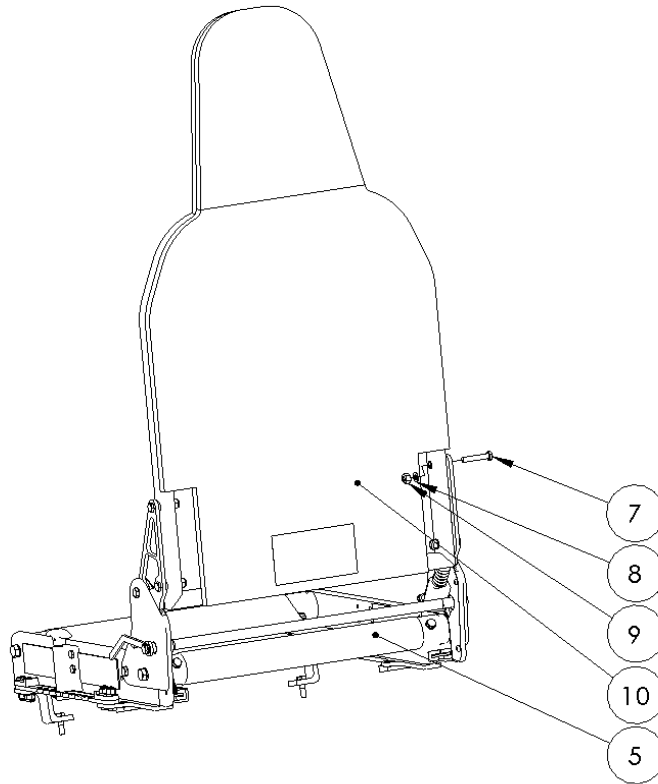

Figure 19 Front Seat Assembly
6. 6A-0003 Seat Frame Assembly (Figure 19)